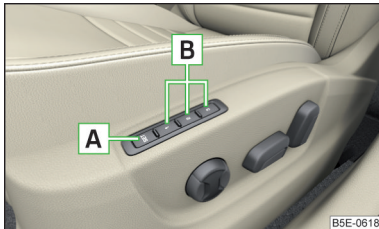

Fig. 83
Among the memory buttons **B** on the driver's seat, a setting for the driver's seat and exterior mirror position can be saved » Fig. 83.
- Press the **SET** **A** » Fig. 83 button and then, within 10 seconds, press the desired memory button **B**. Storing is confirmed by an acoustic signal.
- Turn on the ignition and press the desired memory button **B** » Fig. 83.